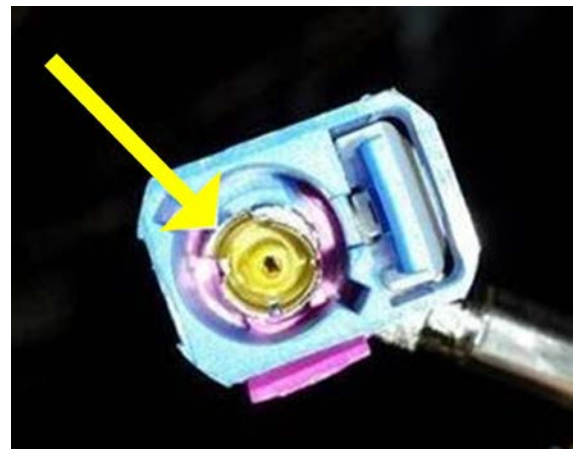

Figure 3. Coax terminal damage
5. Inspect the blue connector for damage at the coax terminal (Figure 3). If damage is found, replace the coax cable from the antenna to the MMI main unit.